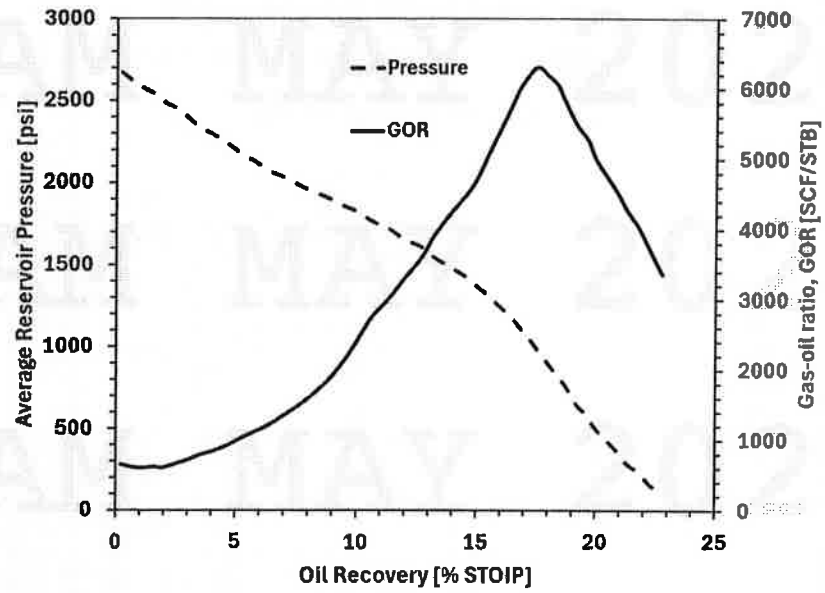

FIGURE Q3c: Production profile of Field Omega.
- c. Field Omega is located northwest of Field Delta. Reservoir simulation study was conducted as part of the field development plan and the result is shown in FIGURE Q3c. The plot shows the average pressure and GOR as a function of oil recovery when the field started production.